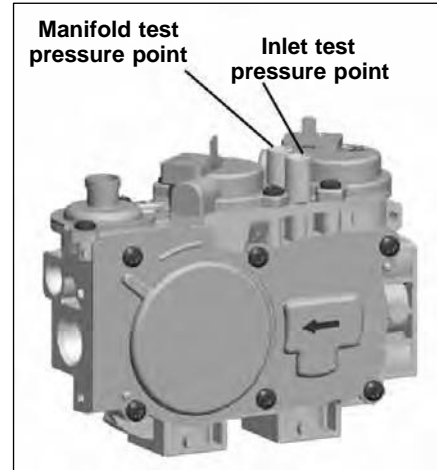

Figure 59: Pressure Test Points.
- b. Place a $\frac{1}{4}$ " silicone tube over either pressure port on the valve (refer to Figure 59). Attach the tube a mono meter.